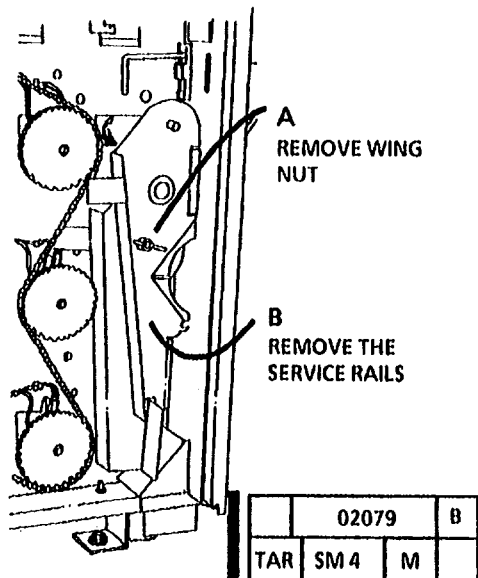

Figure 5. Remove the service rails
① The service rails are stored in the Left Side Door of the Copier.
9. (Figure 5): Remove the service rails from the storage area.